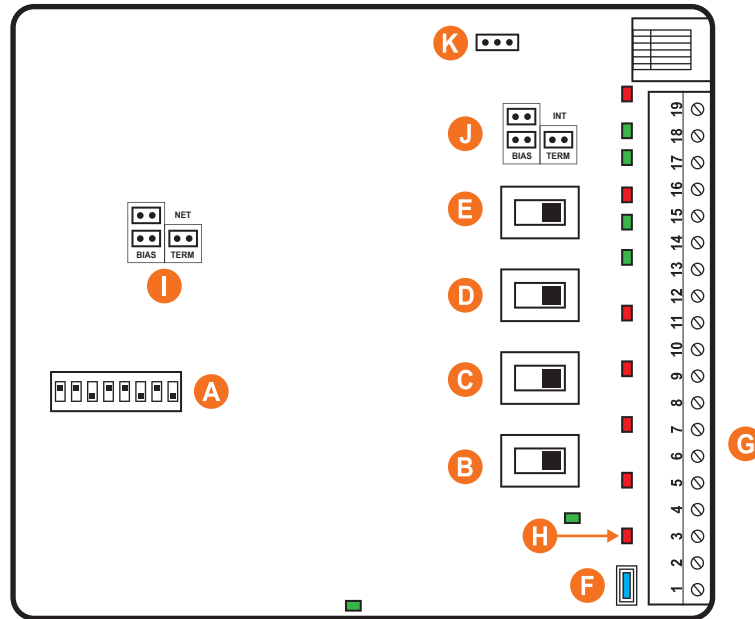

Figure 1 - Identification des composantes
- Figure 1 - Identification des comp